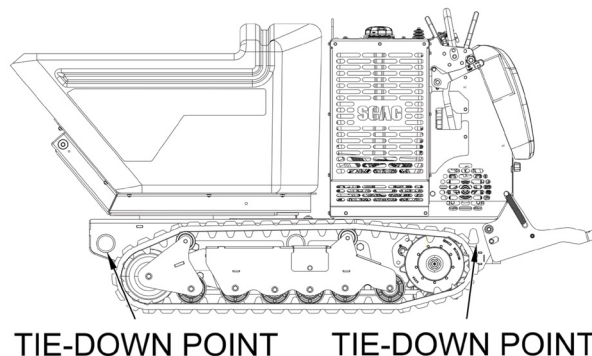

Figure 4-7. Main Tie-Down Points
If the tracked power buggy becomes stuck, pull the machine back into a stable position using both front tie-down points or both rear tie-down points simultaneously. See Figures 4-7 and 4-8.
6. Use metal tie-down loops to secure the machine to the trailer or truck. Tie the machine down securely using straps, chains, or cables. Both the front and rear straps must be directed down and outward from the machine. Refer to local ordinances for tie-down requirements before use. See Figure 4-7 and 4-8.